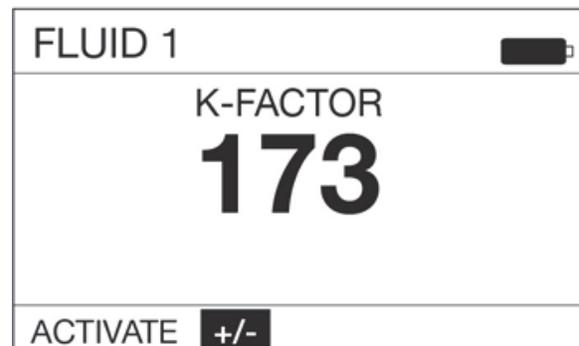

FIG. 63
2. Use the RIGHT ARROW button on the keypad to highlight +/- and press the center ENTER button on the keypad to select the +/- option (FIG. 63).
**NOTE:** Selecting the GO BACK Function on this screen returns the display to the previous screen (shown in FIG. 63).